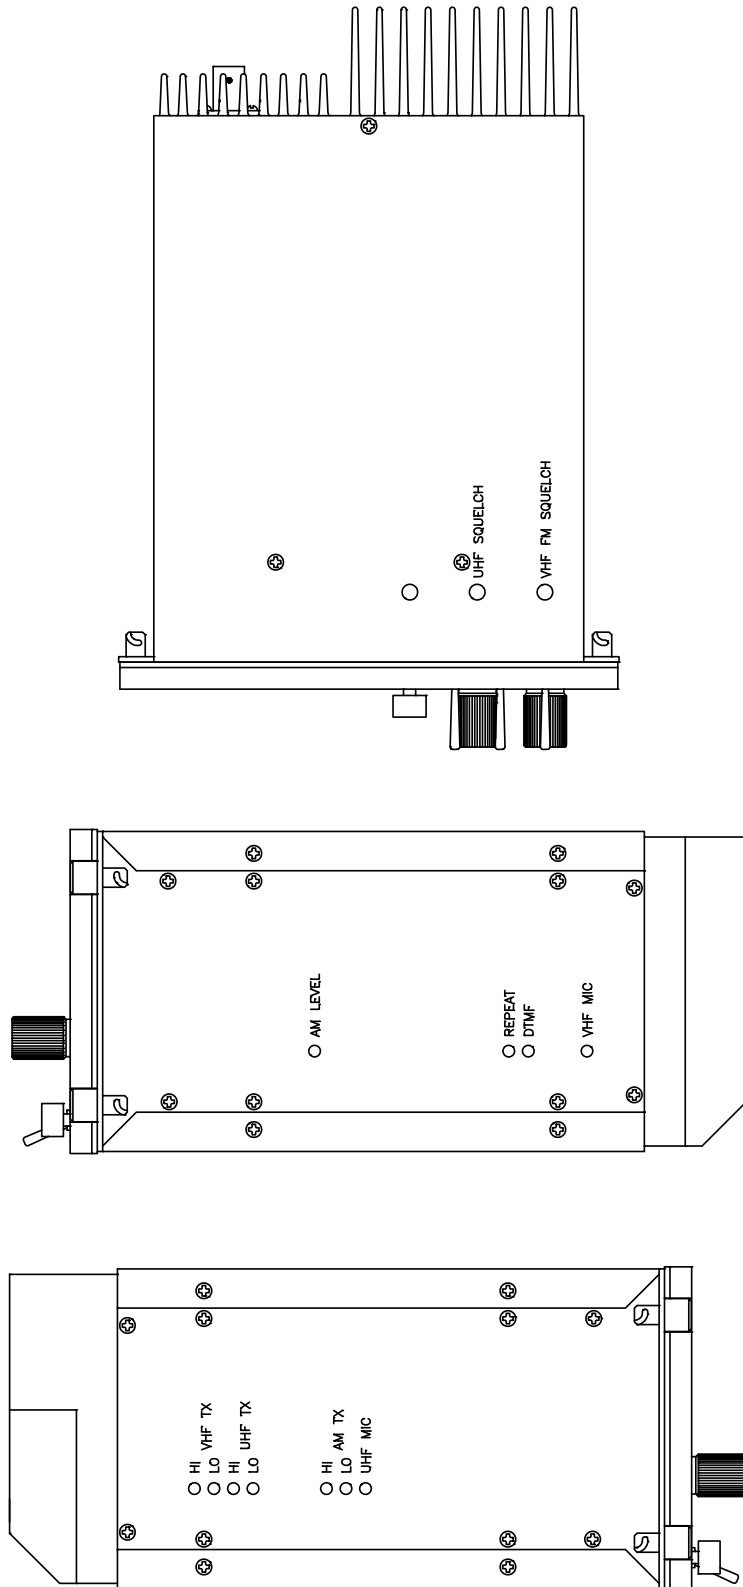

FIGURE 3.4 External Adjustment Access Holes
3. Adjust the VHF MIC adjustment through the access hole located on the right side of the chassis (see Figure 3-4) to produce a 2.7kHz deviation.
8. Adjust the AM LEVEL adjustment through the access hole located on the right side of the chassis (see Figure 3.4) to produce 80% depth of modulation.
3. If not, re-adjust VHF or UHF receiver squelch potentiometer through the access hole located on the bottom or side of the transceiver chassis (see Figure 3-4).